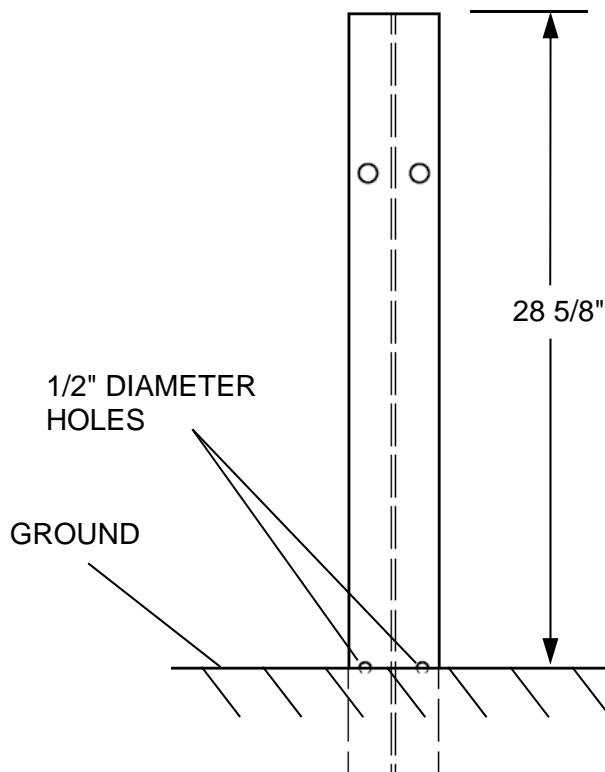

Figure 4 - SYTP Post (Post 2) Placement
- 2.3 Next, place the SYTP Post (i.e., Post 2). The top of the post should be approximately 28 5/8" above the ground and the 1/2" diameter holes should be approximately centered on ground line (See Figure 4).